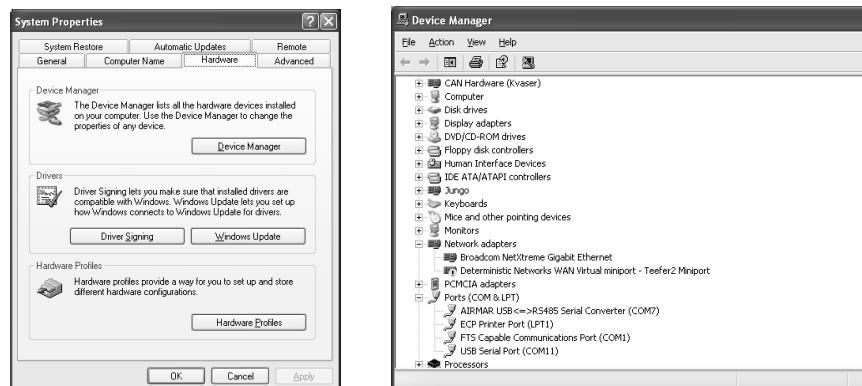

Figure 19. Identify the communications port
**NOTE:** If you do not know to which communications port the Converter or Combiner is connected, click the PC's Start button or right click My Computer. Go to Control Panel>System. On some computers, go to Settings>Control Panel>Printers and Other Hardware, then click System. In the System Properties window, click the Hardware tab, then click Device Manager (see Figure 19). In the Device manager window, expand Ports by clicking the "+" button. Identify the communications port. In the Figure below, it is communications port 7 (com7).